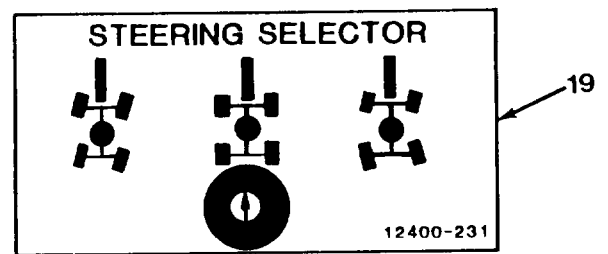

Figure 4-4. *Steering Selector*
19. **Steering Selector** has three positions: four-wheel is full clockwise position, two-wheel is center position, and crab is full counterclockwise position. Switch to crab or four-wheel steering only when axles are centered (axle center indicator light is out), or steering will be limited and may be locked (Figure 4-4). If wheels should become locked, switch to two-wheel steering, turn front wheels, switch back to crab or four-wheel steering and center rear wheels.